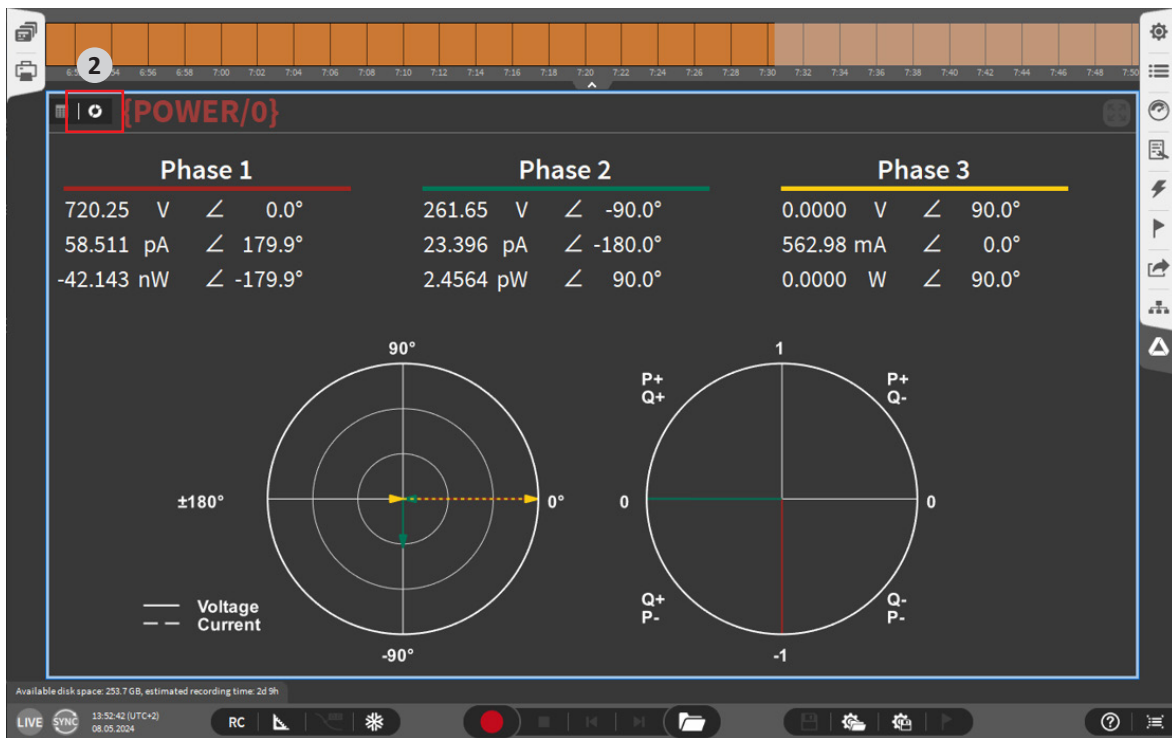

Fig. 25: Place the Power instrument without a template (3)
3. To access the scalar view of the power instrument, click in the circle on the top left of the instrument, see ② in Fig. 25.